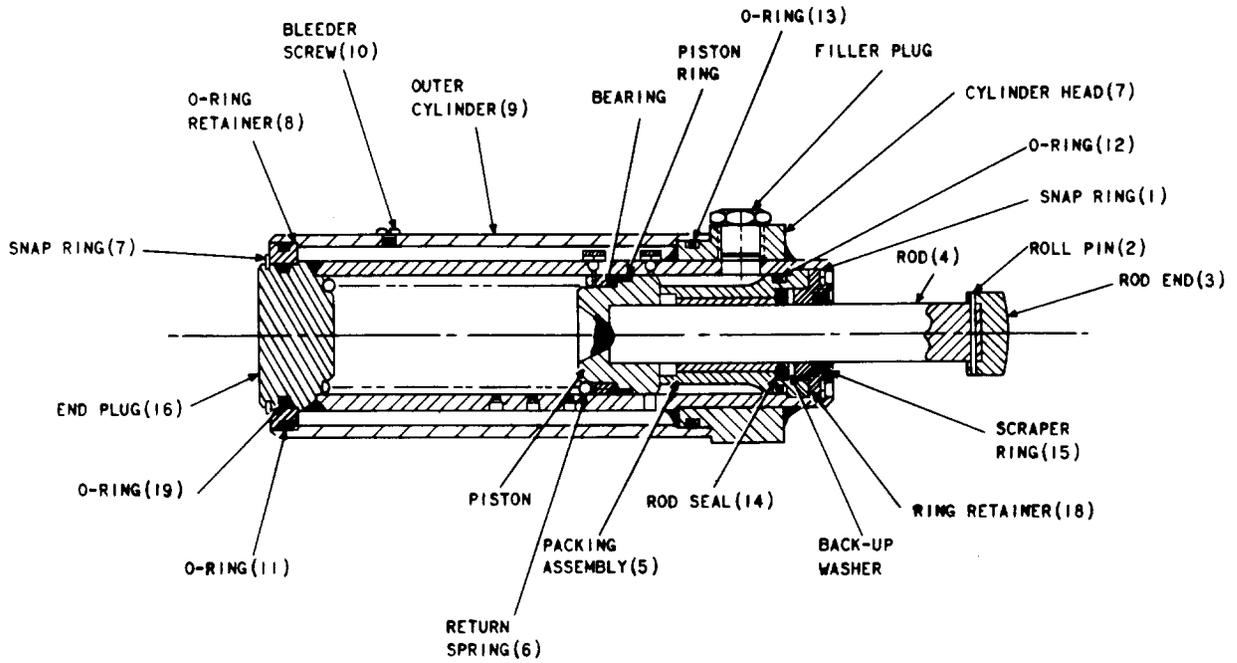

Fig. 5—Schematic Arrangement of the Shock Absorber
- (4) Remove the shock absorber from the actuator assembly by removing the 3/8-inch cap screw and washers; maintain pressure on the shock absorber to prevent it from springing out. Observe the position of the shims, if provided (see Fig. 5).
- (5) Close the blast valve manually.